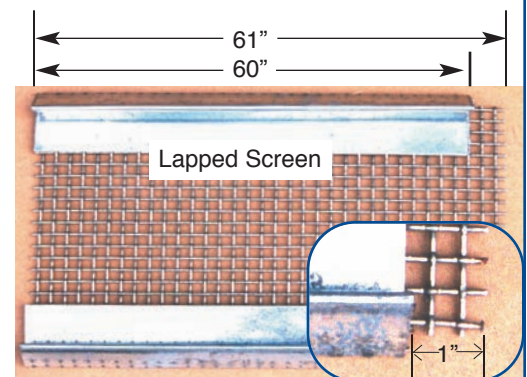

Fig. 4
- D. If two or more screens are used for the length, advise if a lap is desired. Give the overall length first, then specify the length of the hook and amount of screen overlap needed. (See fig. 4)